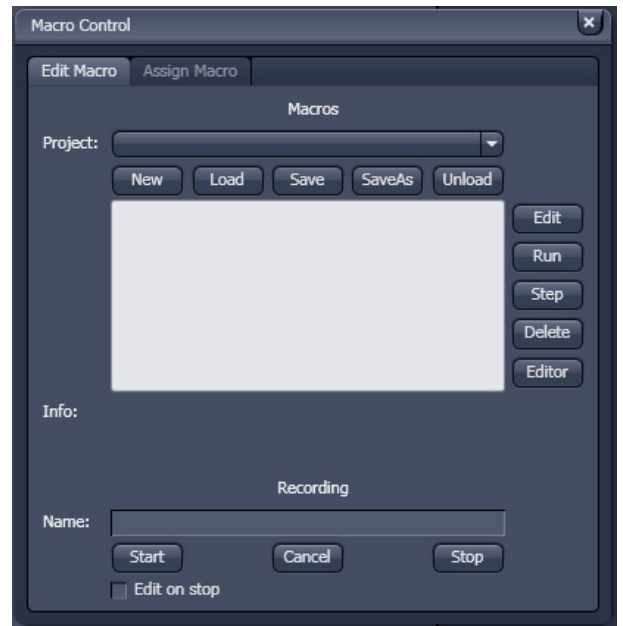

Fig. 5-3 Macro Control window
Selecting **Macro** opens a dialogue for editing and recording Macros based on VBA programming in the **Macro Control** window (see Fig. 5-3). VBA programming is described in Section 5.2 of the printed manual.
- Press the **Edit Macro** tab to switch to the **Macro** and **Recording** panels (see Fig. 5-3).